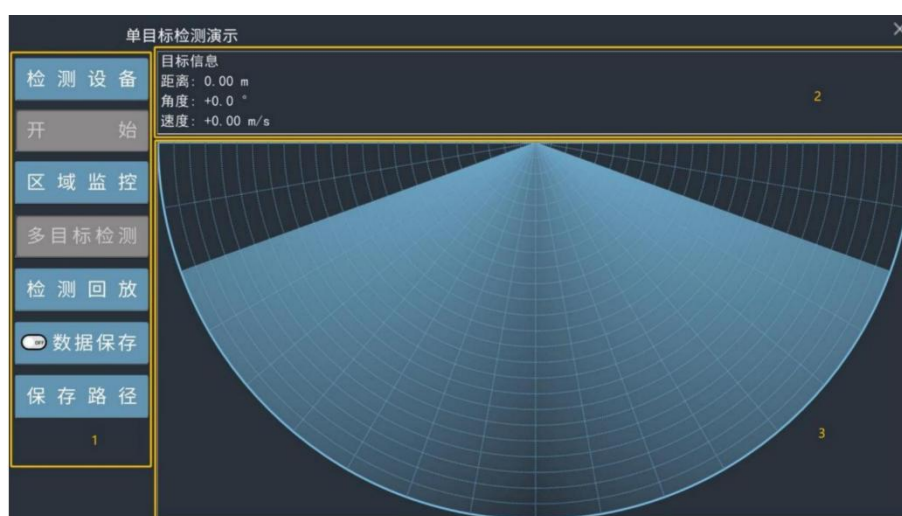

Figure 4-2 Demonstration tool interface
Step 3: Double-click the executable file "RF_Setting_E54_D_V1.0.exe" in the host computer directory path. The demonstration tool interface will pop up, as shown in Figure 4-2.